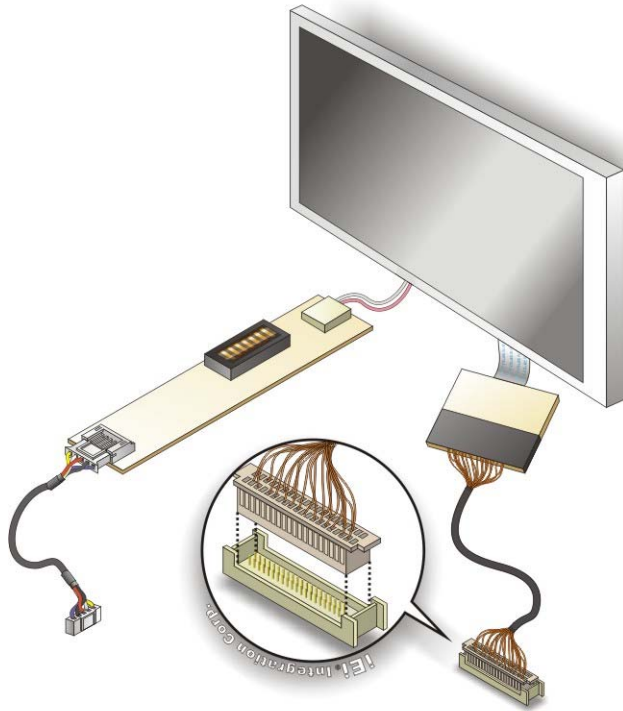

Figure 4-14: LVDS Connector
Step 2: Insert the cable connector. Insert the connector from the LVDS PCB driving board to the LVDS connector as shown in **Figure 4-14**. When connecting the connectors make sure the pins are properly aligned.